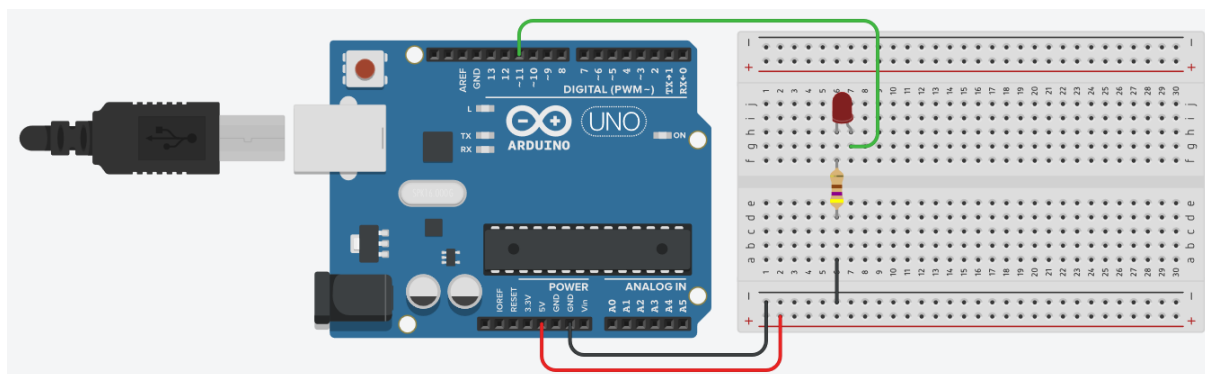

Figure 3. Test circuit for Exercise 1.
The circuit shown in Figure 3 will be used for this exercise, where:
1. Construct the circuit for this exercise, as shown in Figure 3.